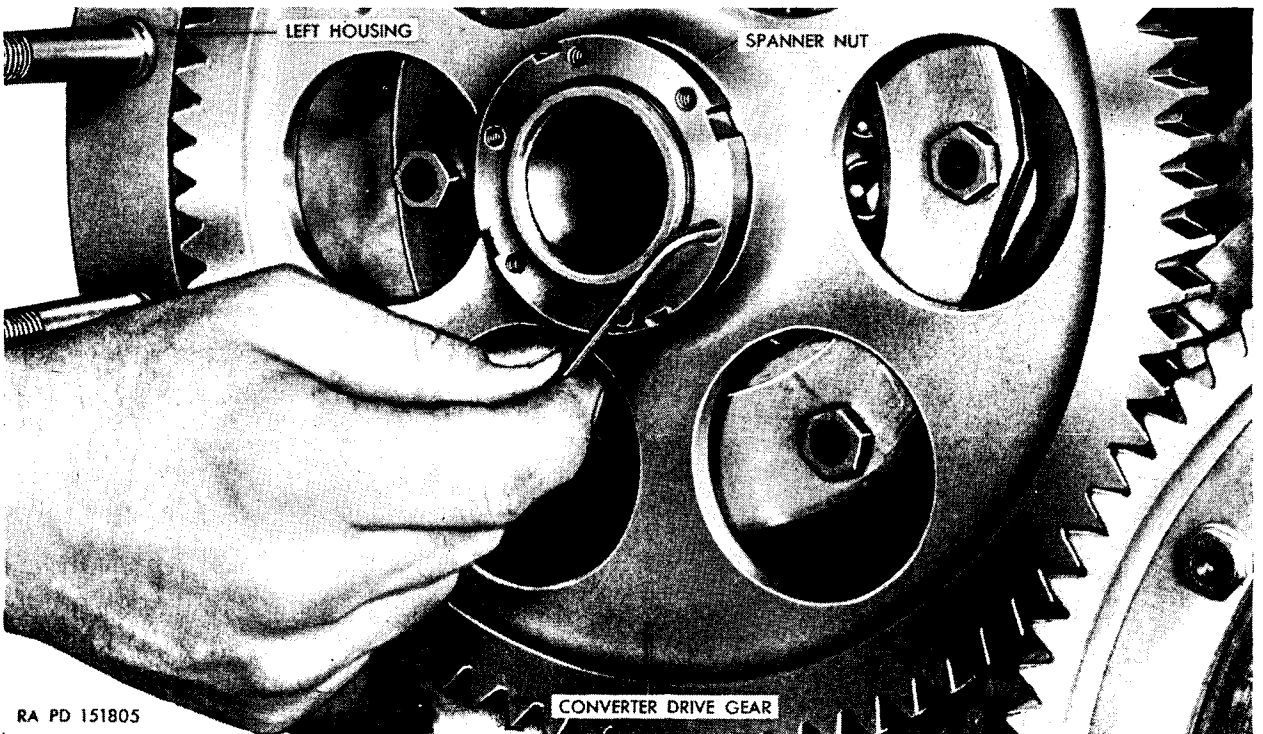

Figure 66. Removing or installing spanner nut lock screw.
- (1) Using a $\frac{3}{32}$ -inch wrench, remove the lock screw from the face of the converter-drive-gear spanner nut (fig. 66). Remove one converter-drive-bearing-cage bolt and install in its place the holding plug (A7083776) in one of the cannon holes in the gear.